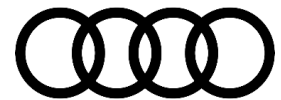

Figure 4. Cleaning the sensor probes.
4. Thoroughly clean the sensor probes (Figure 4).